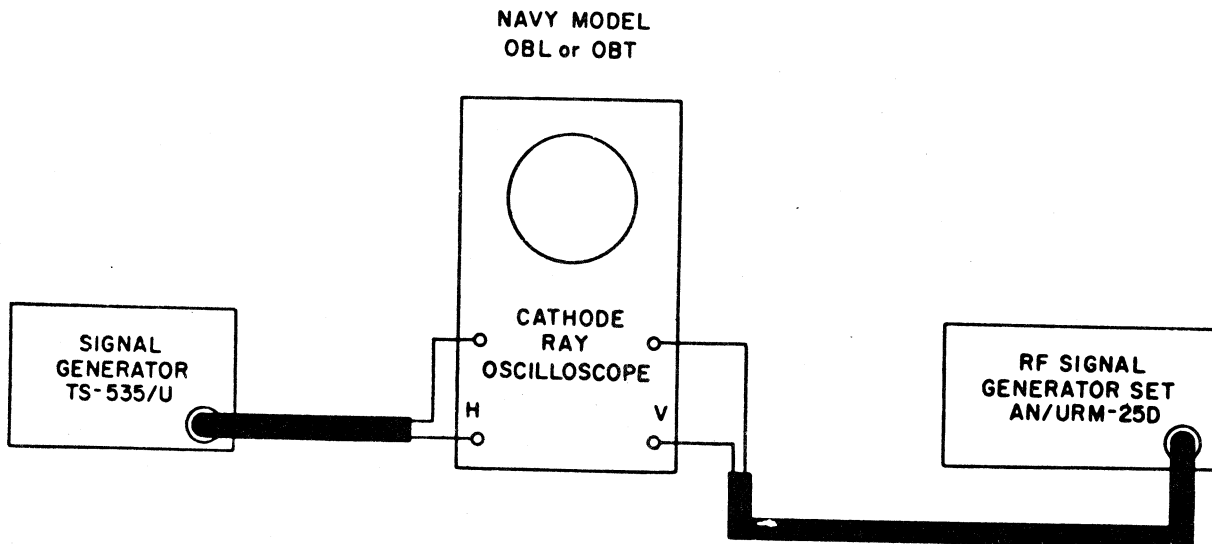

Figure 6-12. Method for Calibrating the RF Signal Generator Set AN/URM-25D at Frequencies Below 100 Kilocycles
(See figure 6-12).
(See figure 6-12 and Table 6-1).
(3) In using the heterodyne frequency meters referred to in paragraph 16 of this section, connect the output test cable (W104) to the heterodyne frequency meter. Plug a pair of earphones into the audio output of the frequency meter. Make the necessary capacitance and inductance adjustments while listening for a zero beat on the earphones.
(4) For calibrating frequency ranges below 100 kc, use the Signal Generator TS-535/U. Feed the output from the RF Signal Generator Set AN/URM-25D and Signal Generator TS-535/U to the horizontal and vertical inputs, respectively, of the oscilloscope, such as Oscilloscope OS-8/U, Navy Models OBL or OBT series (See figure 6-12). Adjust the frequency of the RF Signal Generator Set AN/URM-25D to the same frequency as the Signal Generator TS-535/U as indicated by a zero-shaped Lissajou pattern. Be sure to calibrate the Signal Generator TS-535/U according to its instruction book before using it as a standard in this procedure.
**c. CALIBRATION PROCEDURE** (See figure 6-12 and Table 6-1)
(1) To make the necessary RF trimmer and coil adjustments, it will be necessary to remove the top shield plate from the carrier oscillator compartment side of the casting which provides access to the trimmer condenser. It is also necessary to remove the screw plug from the casting to provide access to the oscillator coil. Identification of the appropriate coil and condenser is not necessary, since the correct components are automatically aligned with the access holes for each frequency band.
(2) The recalibration process consists of (a) adjusting the inductance for frequency calibration at the low-frequency end of the range, (b) adjusting the corresponding trimmer capacitor for a calibration point at the high end of the range, (c) rechecking the low end plus coil adjustment if necessary, (d) rechecking the high end if adjustment in step c is required, and (e) checking the center portion of range selected.
(3) After the adjustment has been made, replace the plate and plug and recheck calibrations. If the calibrations have been changed when this plate is replaced, readjust the applicable trimmer or core to compensate for this effect.
MODULATION CRYSTAL VOLTMETER	9. If the meter still does not respond to the % MOD-AUDIO OUT-XTAL CAL OUT control (R165), feed the output signal from the X-200K RF OUTPUT jack (J101) to a test oscilloscope. Set the carrier frequency at 100 kc. Place the MOD-XTAL & METER SELECTOR switch (S102) in the CW position. Advance the carrier control (R173) in a clockwise direction until a reading of "10" is obtained on the upper meter scale. With the external modulation applied as in par. 8 above, the modulated pattern should appear on the oscilloscope (figure 6-12). If it does, the trouble was in the modulation crystal voltmeter.